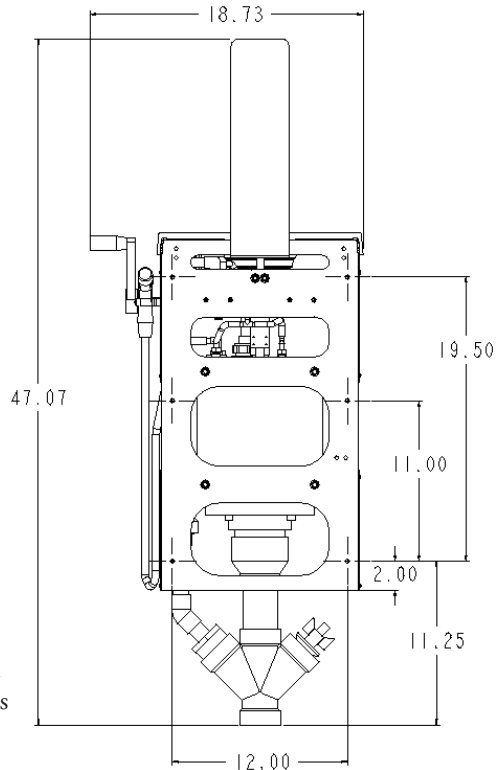

Figure 1
- an area of open wall space per figure 1
1. Select a place for the Vac-U-Station to be installed, preferably an area isolated from patient contact and treatment. Refer to figure 1 for typical dimensions used and the required wall footprint.
3. Mount the Vac-U-Station so that the surface of the casting is approximately 43" from the floor. Pilot holes should be drilled into weight bearing studs. See figure 1 for mounting requirements.